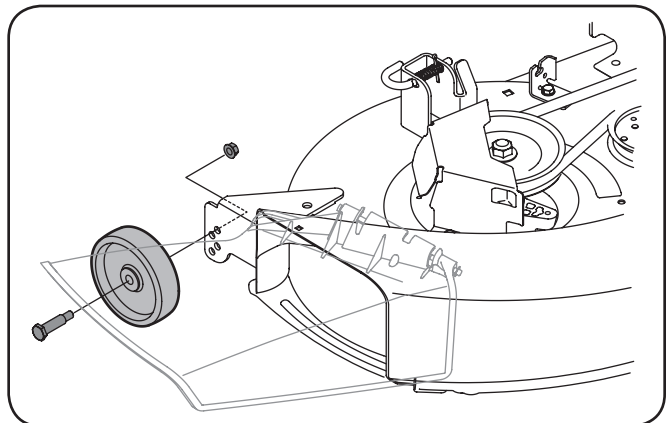

Figure 3-8
- d. Reinsert the shoulder screw (with each gauge wheel) into the index hole that leaves approximately ½-inch between the bottom of the wheel and the pavement. Secure with the flange lock nut previously removed. See Fig. 3-8.